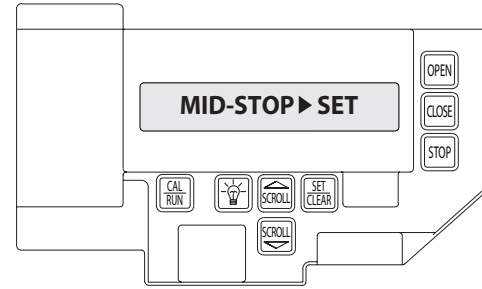

Figure 14
- 3) Press SCROLL  until display reads "MID-STOP >CLR" **Figure 14.**